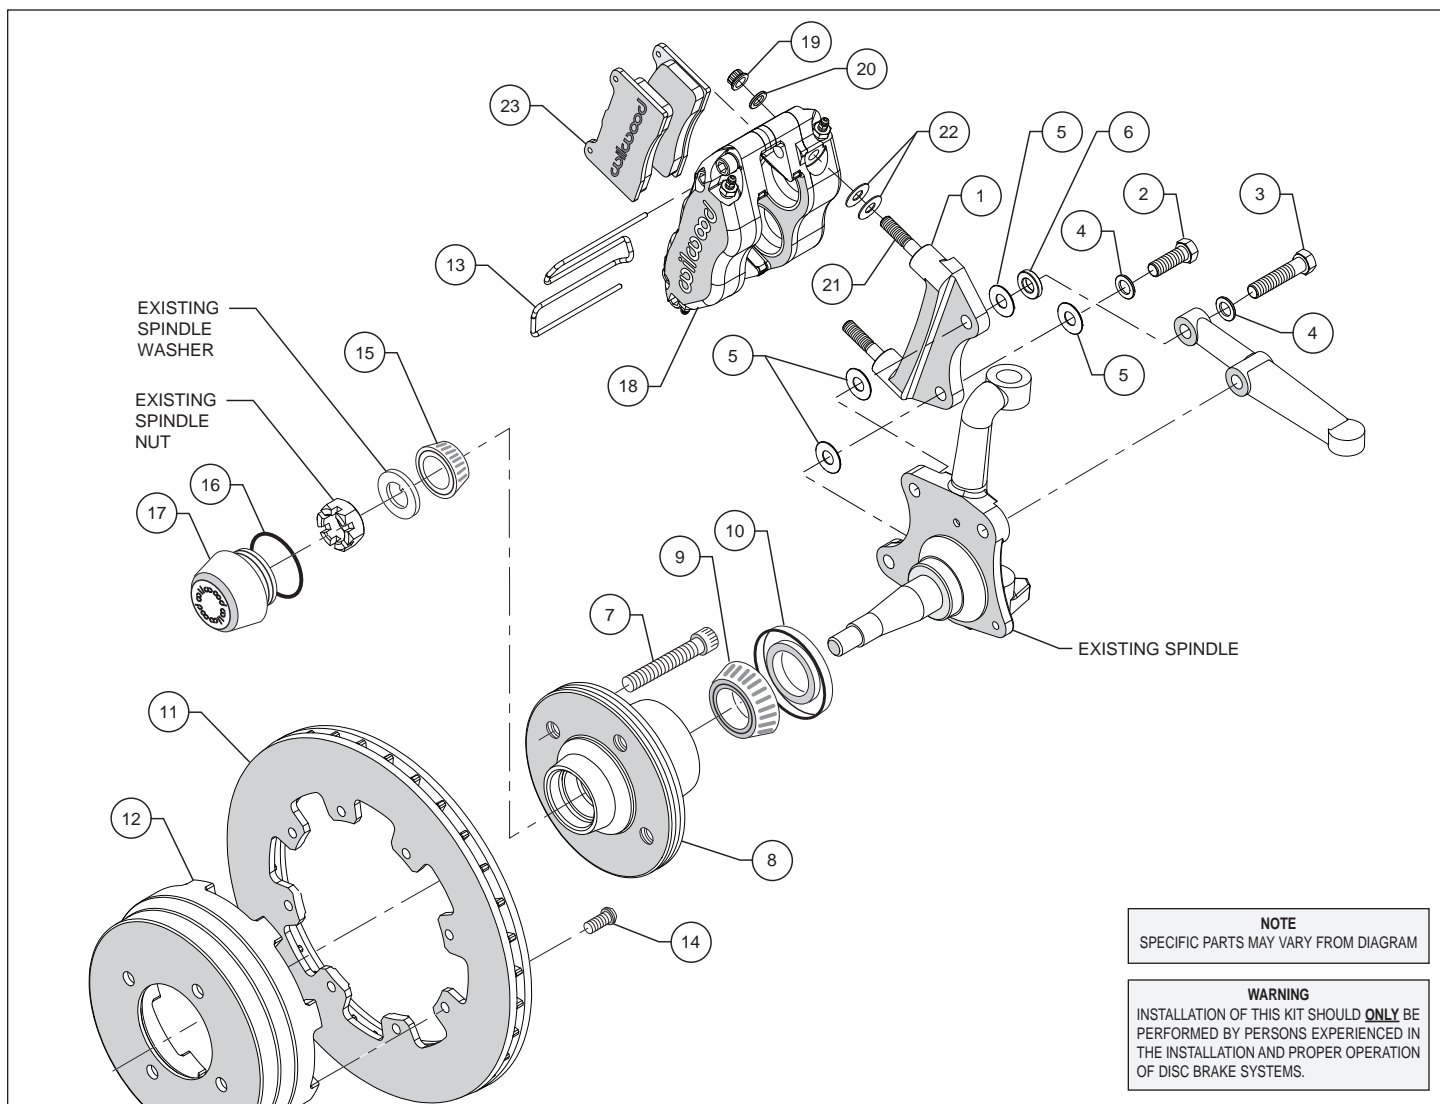

Figure 1. Typical Installation Configuration
**Assembly Instructions** (numbers in parenthesis refer to the parts list on the preceding page, and Figure 1):
- The caliper mount bracket (1) should initially be installed with clean, dry threads on the mounting bolts. Orient the bracket as shown in Figure 1 and Photo 1, and install between the spindle and steering arm using bolts (2/3), washers (4), shim washers (5), and spacer (6). Initially place one .030" thick shim (5) on each bolt between the bracket and spindle, and one shim on each bolt on the opposite side of the bracket, see Figure 1. Temporarily tighten the mounting bolts. **NOTE:** The bracket must fit squarely against the mount bosses on the upright. Inspect for interference from casting irregularities, machining ridges, burrs, etc. Later, after the caliper alignment has been checked, the mount bolts will be secured using red *Loctite*® 271.
- Install the grease seal (10) by pressing into the backside of the hub (8), flush with the end of the hub, Photo 3.
- Pack the small outer bearing cone (15) with high temperature disc brake bearing grease and install into hub (8). Slide the hub assembly onto the spindle. Secure using OEM spindle washer and OEM spindle nut, Photo 4. Adjust bearings per OEM specifications. Install saved OEM nut lock (if any) and a new cotter pin (not included).
- Orient the rotor (11) and the hat (12) as shown in Figure 1 and Photo 5. Attach rotor to hat using bolts (14). Using an alternating sequence, apply red *Loctite*® 271 to the threads, and torque to 25 ft-lb.
- Lubricate the caliper mounting studs (21) with lightweight oil. Initially place two .035" thick shims (22) on each stud between the caliper and the bracket, as shown in Figure 1 and Photo 7. Mount the caliper (18) onto the bracket (1) using lock nuts (19) and washers (20), Figure 1. Temporarily tighten the lock nuts and view the rotor through the top opening of the caliper. The rotor should be centered in the caliper, Photo 8. If not, adjust by re-allocating shims (5) from one side of the bracket to the other. Always use the same amount of shims on each of the two mounting bolts. Once the caliper alignment is correct, remove the bracket mounting bolts one at a time, apply red *Loctite*® 271 to the threads, and torque to 47 ft-lb.